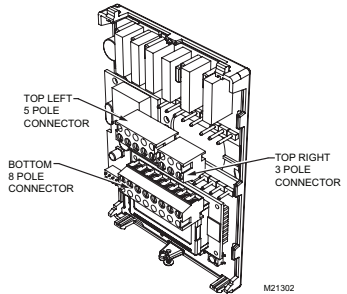

Fig. 3. Re-install terminal blocks
13. Install wiring terminals in correct location (Fig. 3).